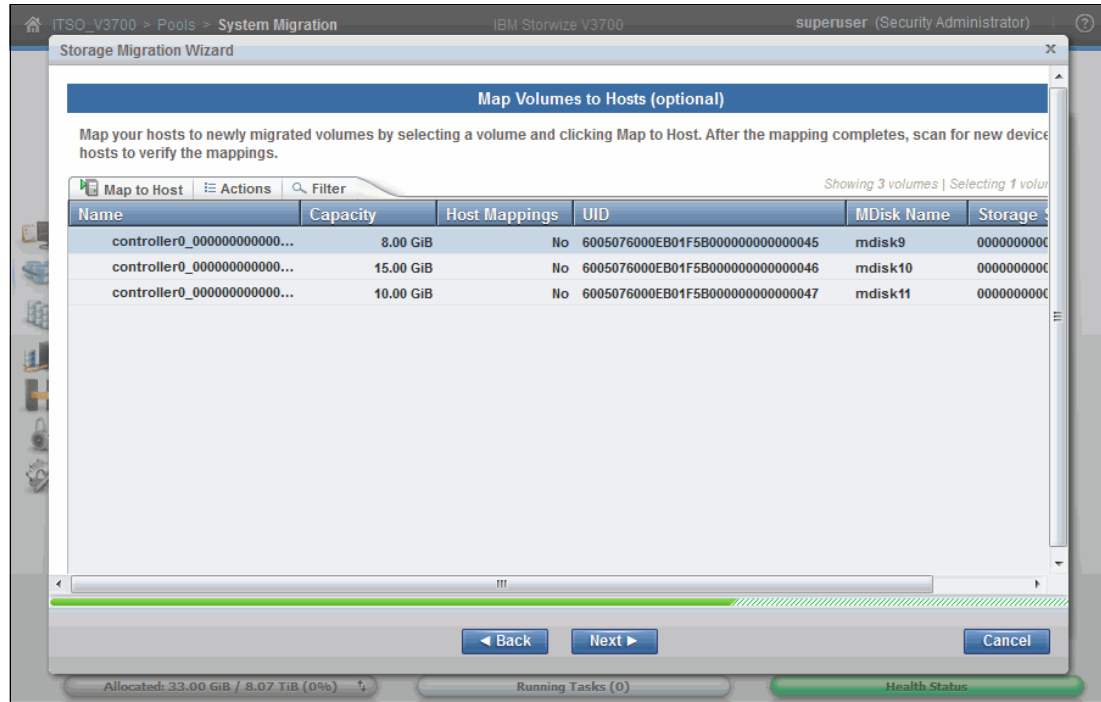

Figure 6-50 Map Volumes to Hosts pane
1. Start in the Map Volumes to Hosts pane, as shown in Figure 6-50.
6. Notice that the volume now has a new name. Follow the process from Figure 6-50 on page 291 to rename the rest of the volumes.